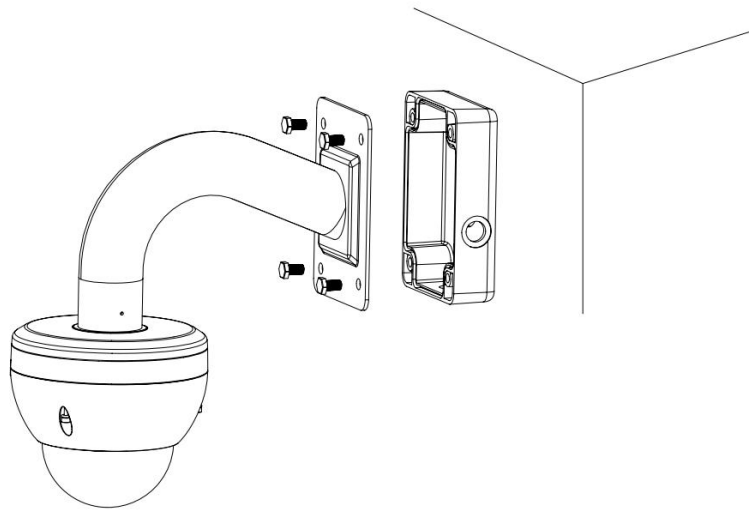

Figure 4-4
3) Complete the cable connection of the junction box and use 4 M8 screws to secure the wall mount bracket in the box. Now the installation is complete. See Figure 4-4.